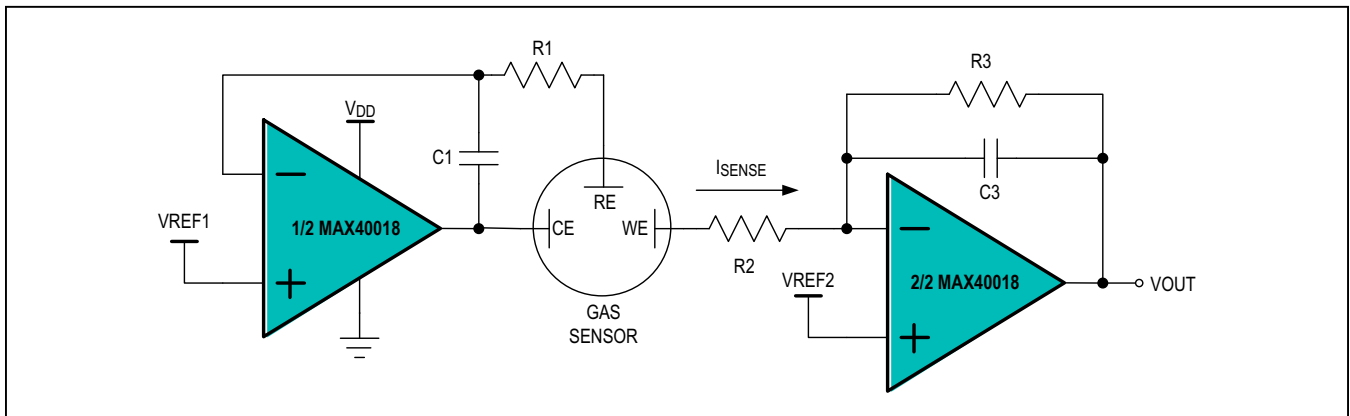

Figure 5. Gas Detection Circuit
Figure 5 shows a gas detection circuit using the MAX40018. The first op amp generates a constant voltage at the sensor reference electrode (RE). The op amp's ultra-low input bias current of 1pA is ideal for this stage. The second op amp converts the sensor output current into a voltage